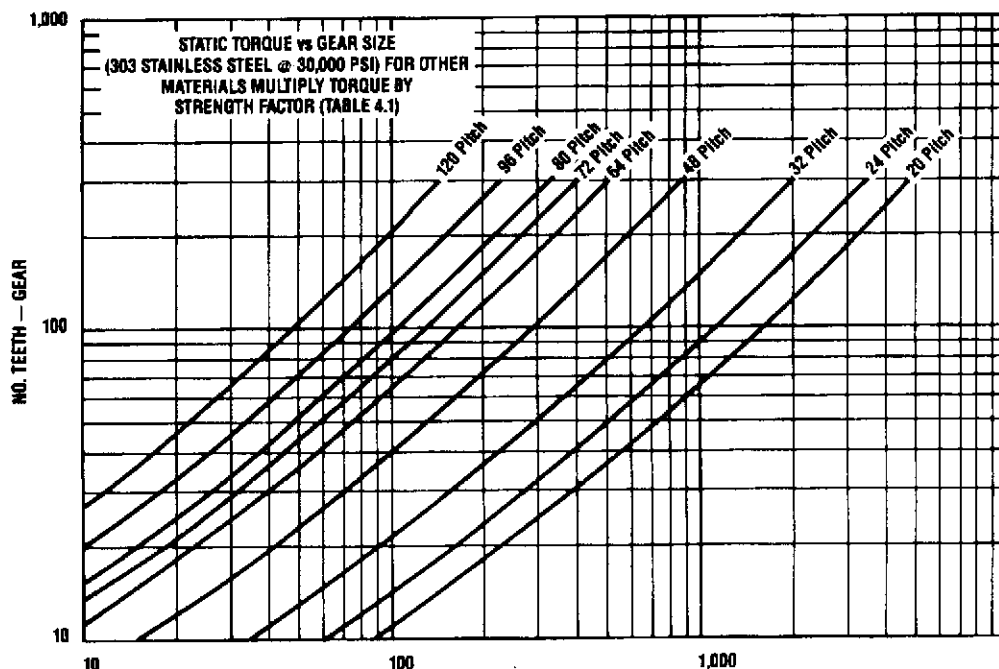

FIGURE 4.1 — STATIC TORQUE IN. OZ. (PER 1/16" FACE WIDTH GEAR)
4.02 The Curves (Figure 4.1) are based on the Lewis Formula (using 303 Stainless Steel, $S = 30,000$ psi)